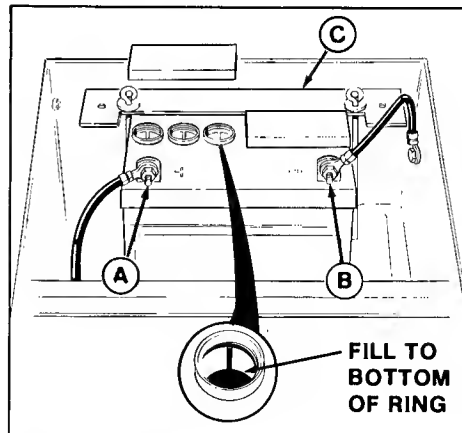

Figure 13. Battery
3. Fluid must be even with bottom of split ring full mark (figure 13). If not, add distilled water.
1. Disconnect the cables from the battery, negative cable first (figure 13).
5. Reinstall battery and clamp (figure 13).